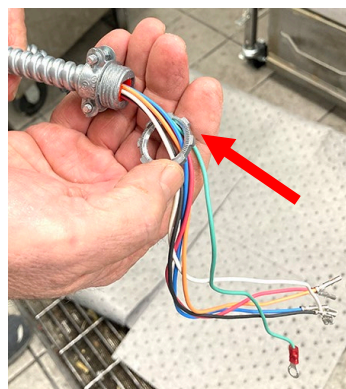

Figure 16
- b. Remove the conduit nut from the harness and conduit (see Figure 16).